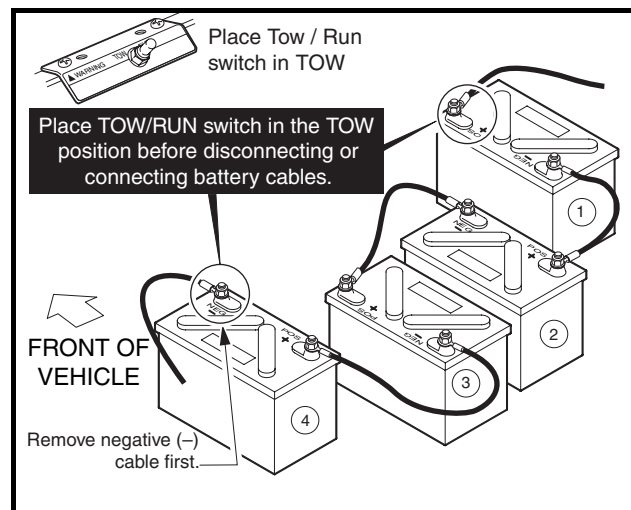
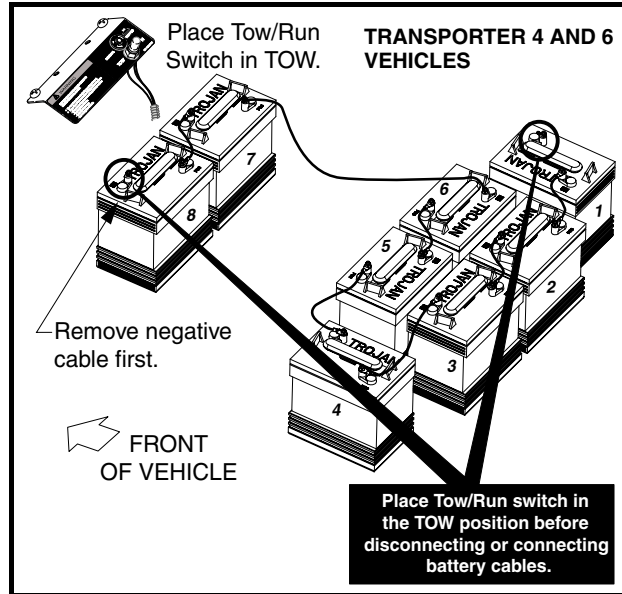
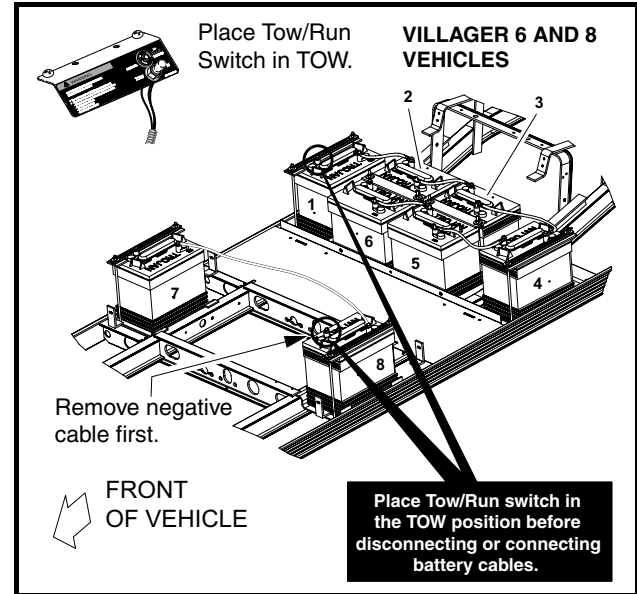

Figure 1-2 Villager 4 IQ System Vehicle
Figure 1-3 IQ Plus Transporter 4 and 6 Vehicles
Figure 1-4 IQ Plus Villager 6 and 8 Vehicles
- To avoid unintentionally starting the vehicle, disconnect the batteries as shown (Figure 1-2, Page 1-3 or Figure 1-3, Page 1-4 or Figure 1-4, Page 1-4).